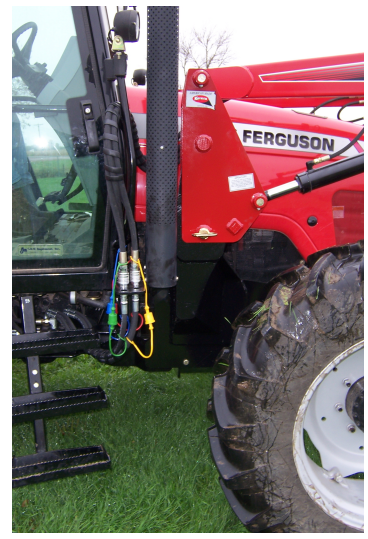

Fig 1-6
15. Now install the mid-mount couple plate (Part #7) with two 3/8” x 1 1/4” HH cap screws, lock washers and hex nuts (Part #26, 35 & 39). **See in Fig. 1-6.**